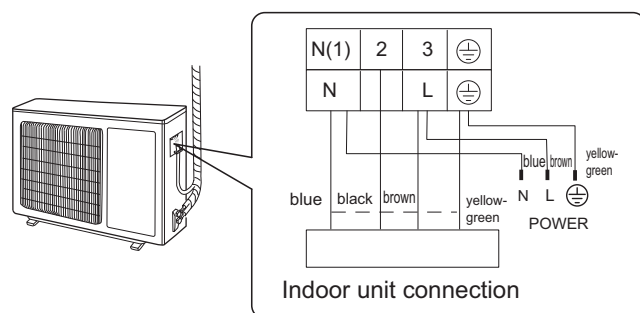

Fig.23
- (1) Remove the wire clip; connect the power connection wire and power cord to the wiring terminal according to the color; fix them with screws.(As show in Fig.23)